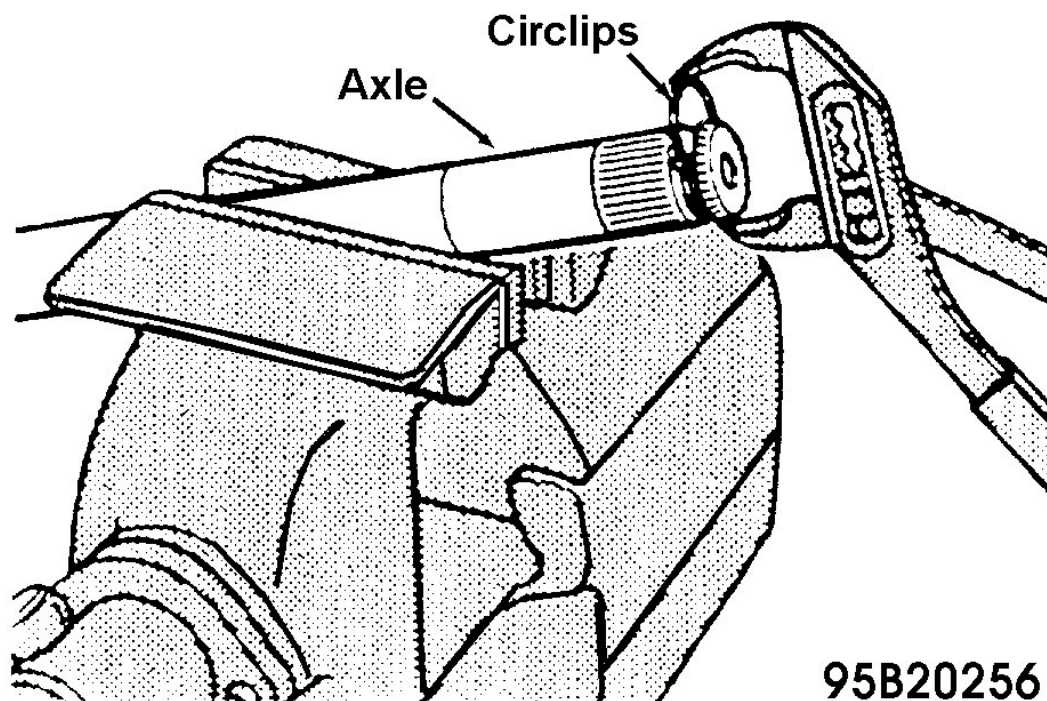

Fig. 61: Installing Circlips To Axles
5. Install NEW circlips on axle shafts by pushing old circlips off while installing new circlips. See **Fig. 61** . Using driver, install axle seal. Install short axle shaft, using a plastic hammer.